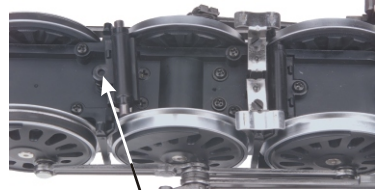

Figure 13: Locate and remove the pickup mounting screw
3. Next, locate the pickup assembly behind the middle set of drive wheels and remove its mounting screw as seen in Fig. 13.